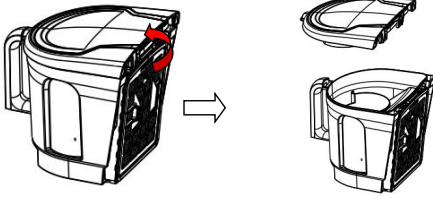

Fig.8
3. As in Fig.8, put the dust chamber onto the rubbish bin, push the release button to open the bottom of the dust chamber, and the dirt and dust will fall into the bin by themselves.